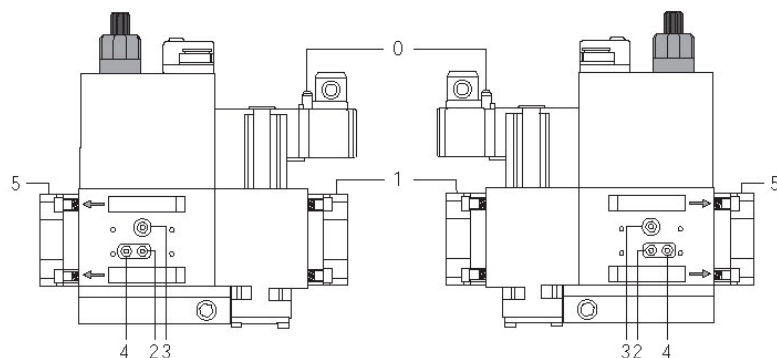
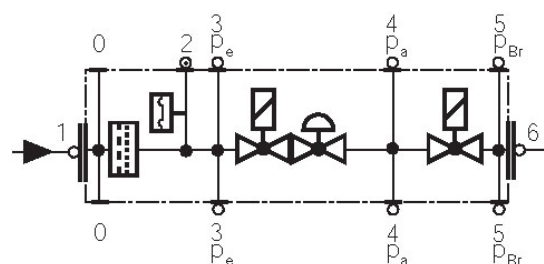

Fig. 23
Fig. 24
- Change the filter if the pressure difference between pressure connection 1 and 2 (Fig. 23-Fig. 24)  $\Delta p > 10$  mbar.
- Change the filter if the pressure difference between pressure connection 1 and 2 (Fig. 23-Fig. 24) is twice as high compared to the last check.